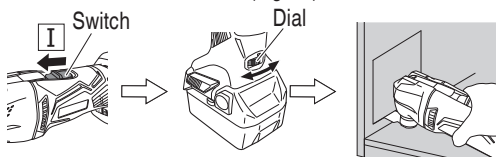

Fig. 12
1. Switch the unit on and use the dial to set the speed of the application tool. (Fig. 12)
2. Lightly place the application tool on the material and move the application tool forward at a pace where the movement isn't slowed. (Fig. 12)